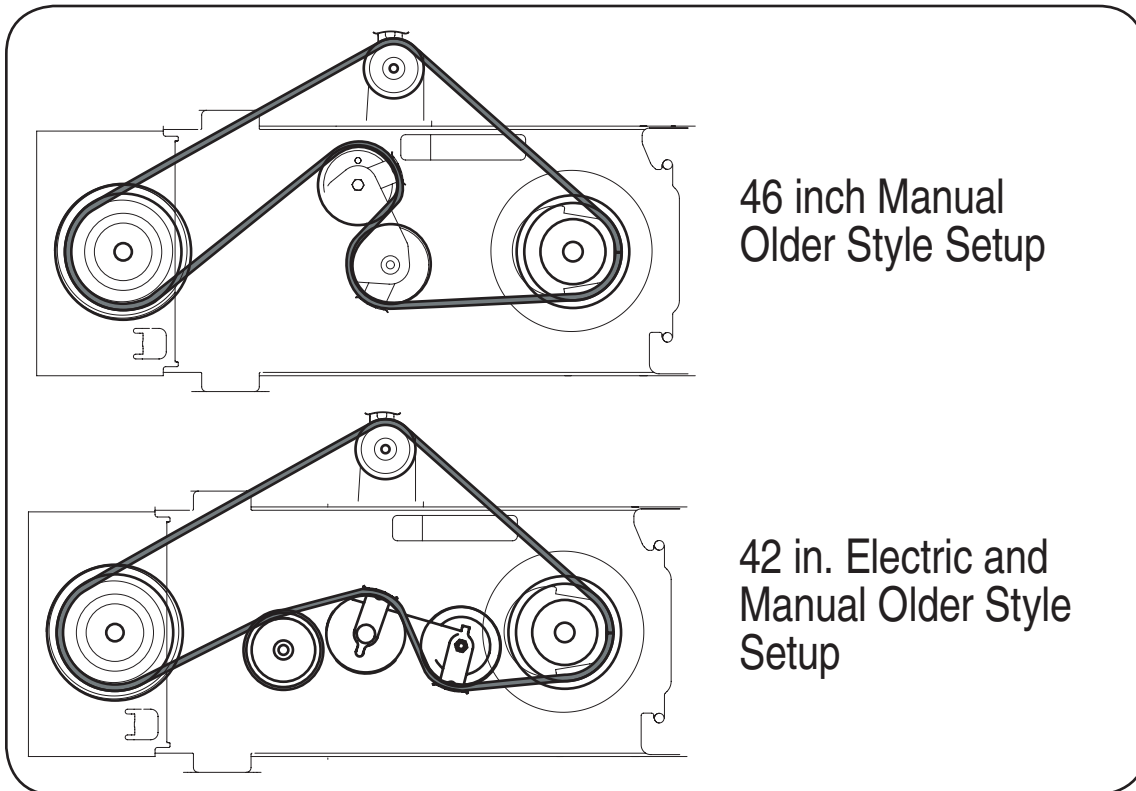

Figure 31
1. Attach and route the proper upper drive belt (refer to the table on page 12) around the spindle pulley and idler pulley found on the undercarriage, the lower portion of the engine pulley and the two pulleys found on the PTO double-idler bracket as illustrated in Figure 31. Make sure that the belt is routed to the INSIDE of all belt keepers on the idler pulleys and the keeper pins found around the spindle pulley